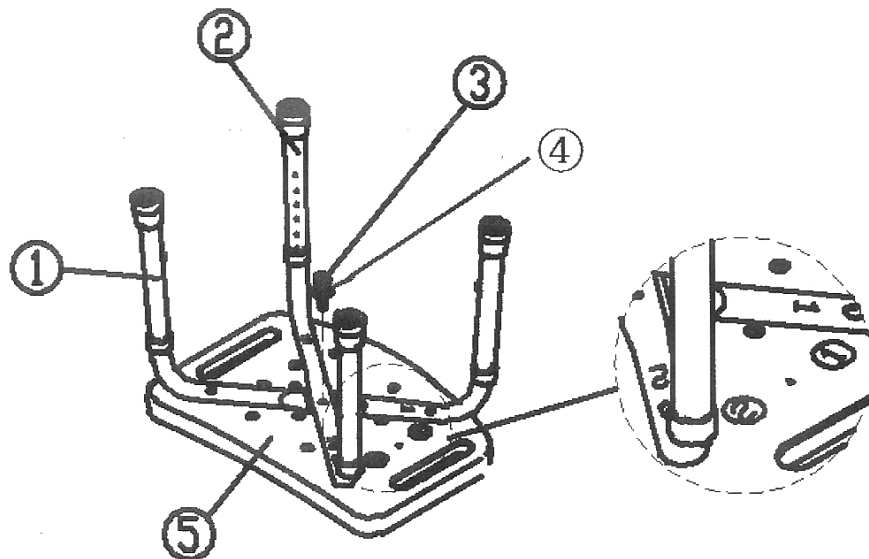

Figure 1
3. Install mounting screw through vaulted washer, top leg, bottom leg and tighten on the seat. Refer to Figure 1.